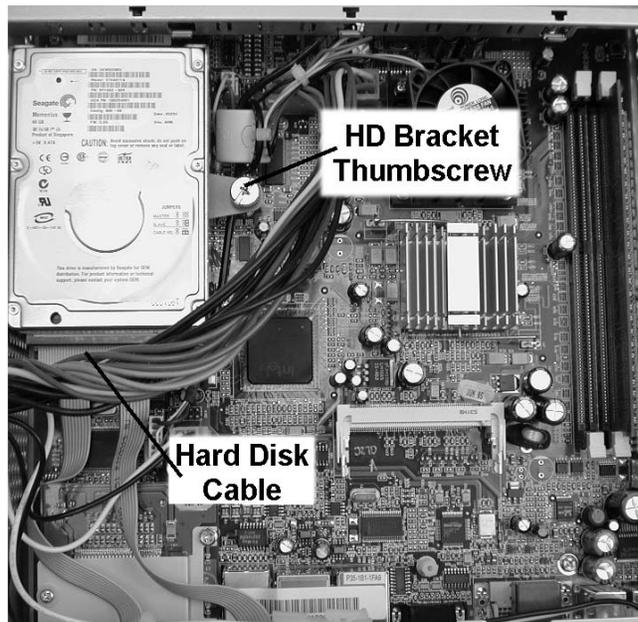

Figure 3-19: Removing the Hard Disk and Cable
2. Refer to Figure 3-19 and remove the thumbscrew that holds the hard disk bracket in place.
2. Remove ATX power connector if necessary, then remove the bracket thumbscrew as shown in Figure 3-19.